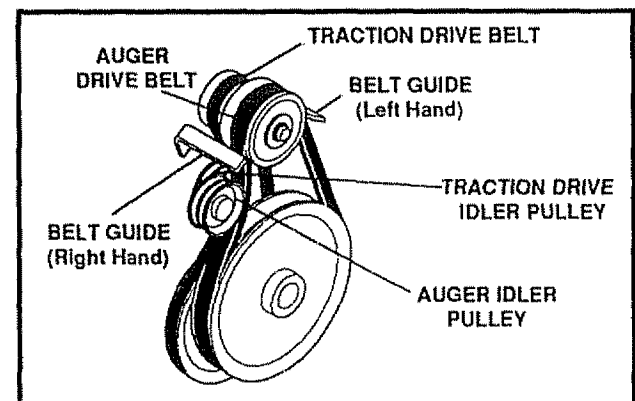

FIG. 26
- Loosen the nut on the auger idler pulley (See Fig. 26) and move the pulley toward the belt about 1/8".